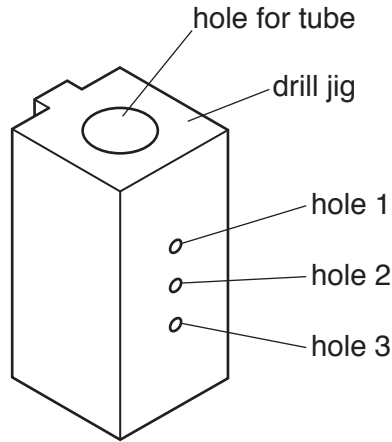

Fig. 8
- 19 Fig. 8 shows the drill jig.